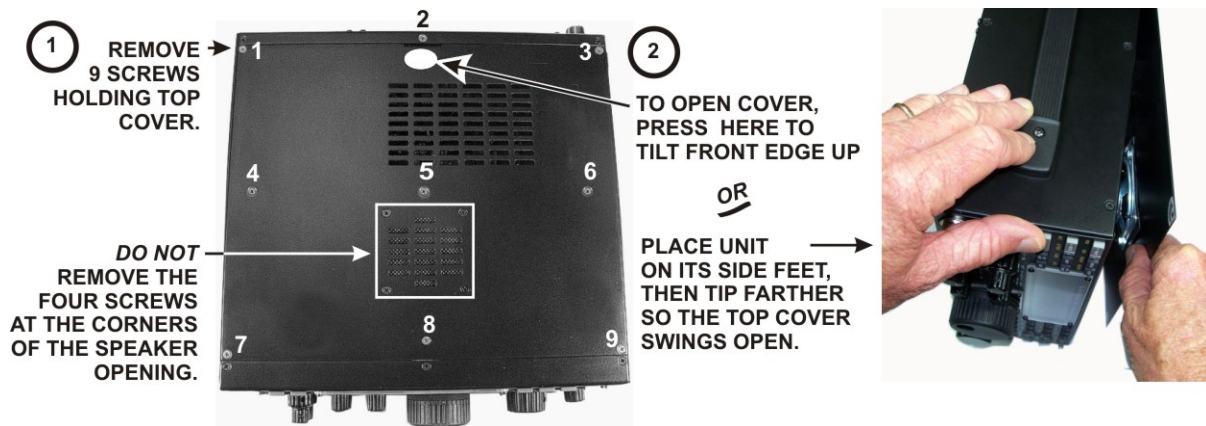

Figure 1. Removing K3 Top Cover.
- Remove the nine screws to free the top cover as shown in Figure 1. After the cover is open, lift it gently to reach the speaker wire connector. Unplug the speaker then set the top cover aside in a safe place.
Position the top cover on the K3. Note that the tab on the back center goes under the rear lip of the K3 rear panel. Secure the top cover with the nine 4-40 3/16" (4.8 mm) black flat head screws you removed earlier (see Figure 1 on page 6 for the screw locations).